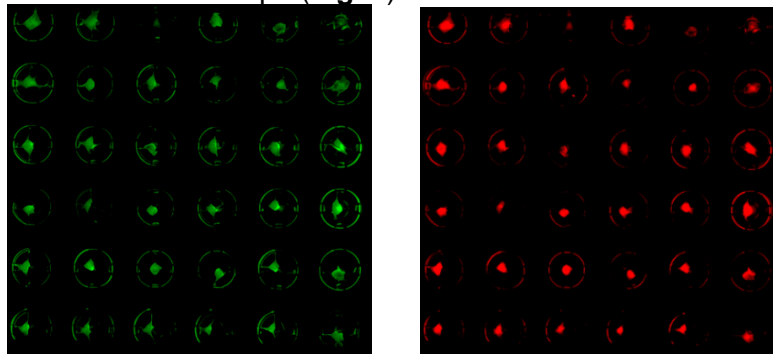

Figure 5. Stitched images of organoids obtained from the 36PillarPlate.
14. Mount the 36PillarPlate with the thin microscopic glass slide and obtain fluorescence images using a confocal microscope (**Fig. 5**).